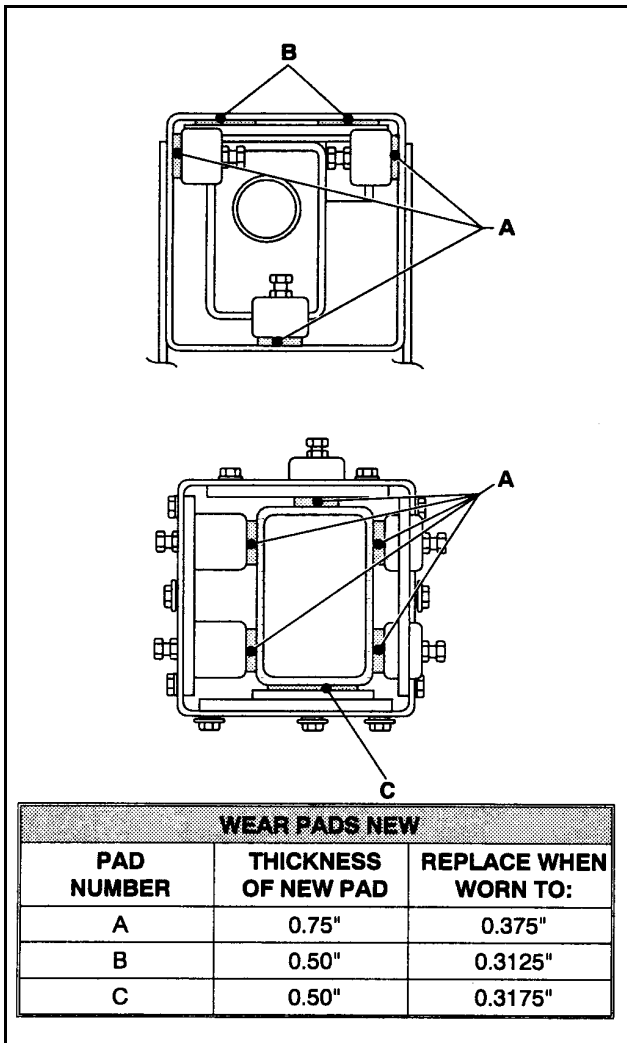

Figure 2-2. Location and Thickness of Wear Pads.
2. Replace wear pads when worn to thickness shown in Figure 2-2.